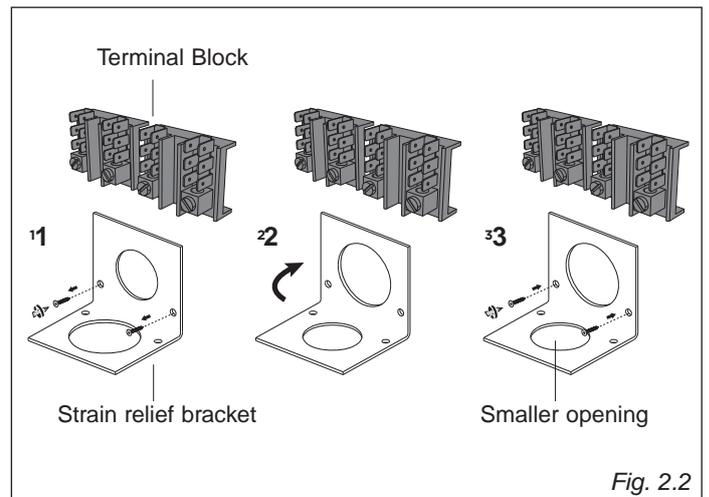

Fig. 2.2
- The strain relief bracket orientation must be so that the 7/8" (22mm) smaller opening is facing down (fig. 2.2). If not, the strain relief bracket orientation must be switched in order to accommodate for a permanent wiring connection: